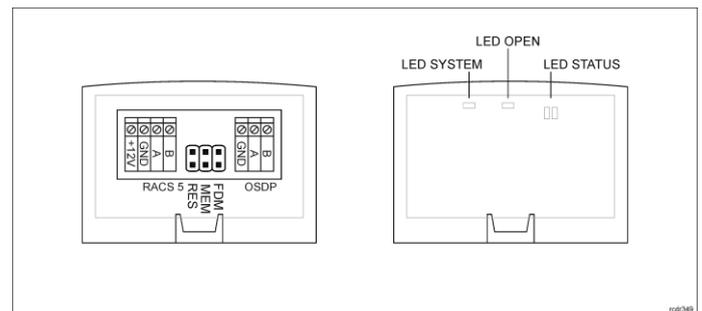

Fig. 3 MCI-3 interface
2. Remove jumper from MEM contacts (fig. 3) if it is placed there.
2. Place jumper on FDM contacts (fig. 3).